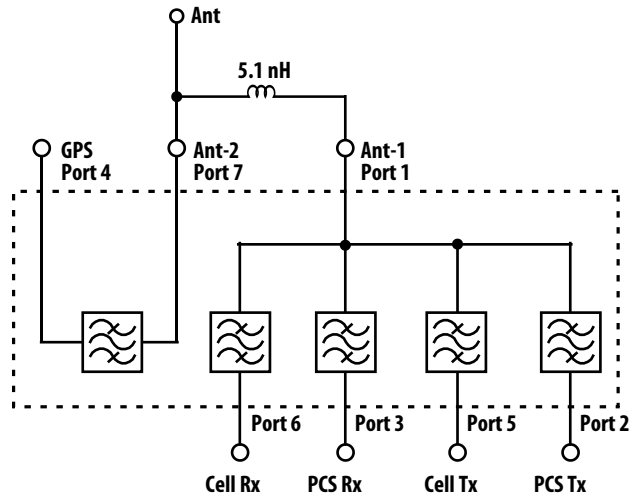

Figure 2. Single Antenna Application.
5. Specifications are for Single Antenna connection as shown in Figure 2 and includes effect of 5.1 nH inductor added between Port 1 (Ant-1) and Port 7 (Ant-2) via simulation.
Optionally, if single antenna operation is required, the Ant-1 and Ant-2 ports of the ACFM-7103 can be connected together as in Figure 2.
2. Single Antenna connection as shown in Figure 2. Data measured with $Z_0=50 \Omega$ for all ports; performance shown includes effect of 5.1 nH inductor added to Port 1 (Ant-1) and Port 7 (Ant-2) via simulation.